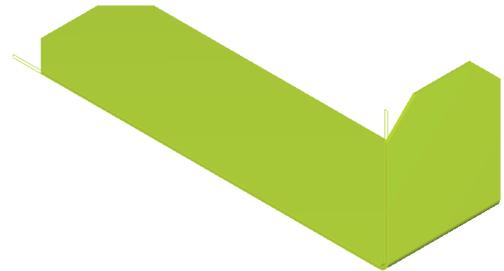

Fig. 49
Step 10. Repeat chamfering all corners, **Fig. 49**.